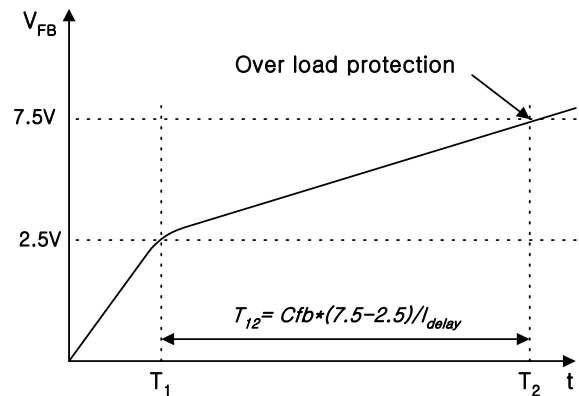

Figure 7. Over Load Protection
**3.1 Over Load Protection (OLP) :** Overload occurs when the load current exceeds a pre-set level due to an unexpected event. In this situation, the protection circuit should be activated in order to protect the SMPS. However, even when the SMPS is in the normal operation, the over load protection circuit can be activated during the load transition. In order to avoid this undesired operation, the over load protection circuit is designed to be activated after a specified time to determine whether it is a transient or overload situation. Because of the pulse-by-pulse current limit capability, the maximum peak current through the Sense FET is limited, and therefore the maximum input power is restricted with a given input voltage. If the output consumes beyond this maximum power, the output voltage ( $V_o$ ) decreases below the set voltage. This reduces the current through the optocoupler LED, which also reduces the optocoupler transistor current, thus increasing the feedback voltage ( $V_{fb}$ ). If  $V_{fb}$  exceeds 2.5V, D1 is blocked and the 2 $\mu$ A current source ( $I_{delay}$ ) starts to charge  $C_B$  slowly up to  $V_{cc}$ . In this condition,  $V_{fb}$  continues increasing until it reaches 7.5V, then the switching operation is terminated as shown in figure 7. The delay time for shutdown is the time required to charge  $C_B$  from 2.5V to 7.5V with 2 $\mu$ A. In general, a 10 ~ 50 ms delay time is typical for most applications.